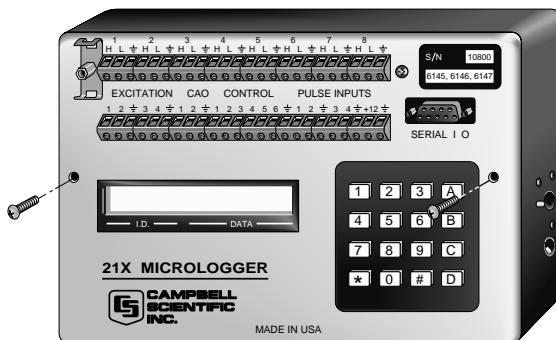

FIGURE I-1. Removing Faceplate Screws
1. Confirm that all necessary data and programs stored in the 21X(L) have been saved to a computer or storage module.
3. Use a Phillips screwdriver to remove the screws on both sides of the 21X(L) faceplate (Figure I-1).